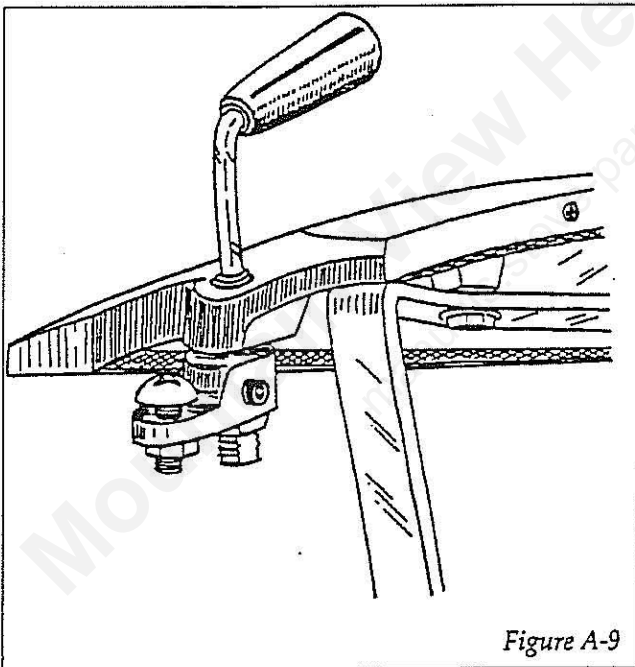

Figure A-9
26. Assemble and install the ashdoor. Screw the socket, button head bolt into the stepped side of the latch pawl. See figure A-9. Thread the hex nut onto the end of the bolt and tighten it finger tight against the flat side of the pawl. Screw the socket set screw into the handle shaft hole of the pawl. Slide the ashdoor handle shaft through its hole in the ashdoor. Slide the pawl onto the shaft so that the pawl offset is opposite the handle curve. Ensure that the pawl is against the ashdoor and that the handle turns without binding. Tighten the set screw in the pawl. Thread the jam nut onto the handle shaft and tighten it against the pawl. Position the ashdoor between the bottom hinge panel and the bottom of the stove; slide the ashdoor hinge pin upward through the bottom hinge, through the ashdoor, and into the socket of the allen bolt holding the left leg to the stove bottom. Secure the hinge pin with a clevis pin just above the bottom hinge.